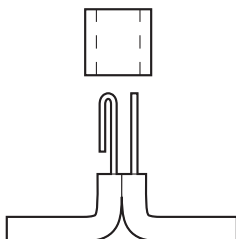

Figure 7
- Strip back the insulation so that the enough wire is exposed to fit into the sleeve in the configuration shown in *Figure 7*.